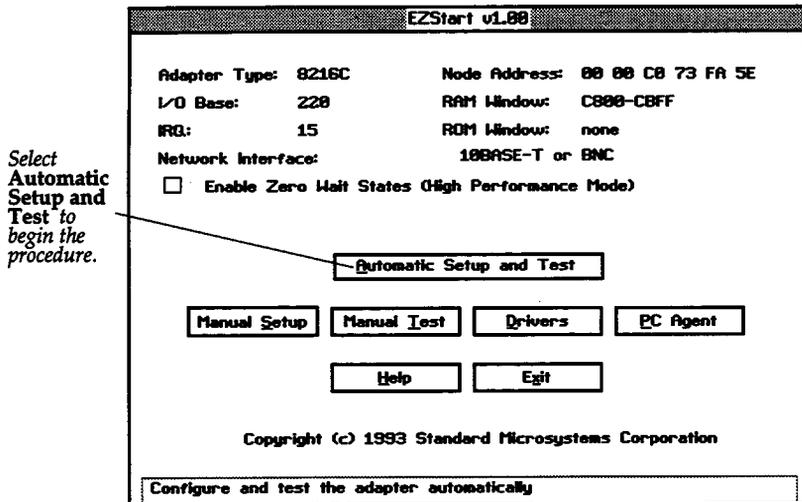

Figure 5-2. Running Automatic Setup and Test
1. From the EZStart main screen, select **Automatic Setup and Test** (see Figure 5-2).